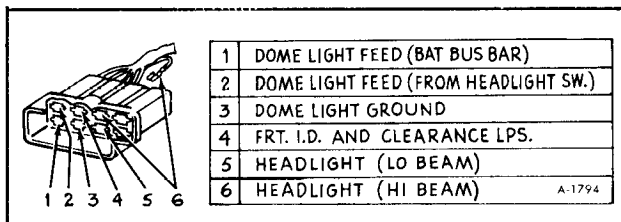

Figure 16—Front Wiring Connector
Dome lights, headlamps and front clearance lights are fed through an (8) way multiple connector located under the instrument panel. The front lighting wiring is part of the instrument panel wiring harness. Figure 16 shows the female portion of the front lighting harness and the appropriate wire position in the connector body.